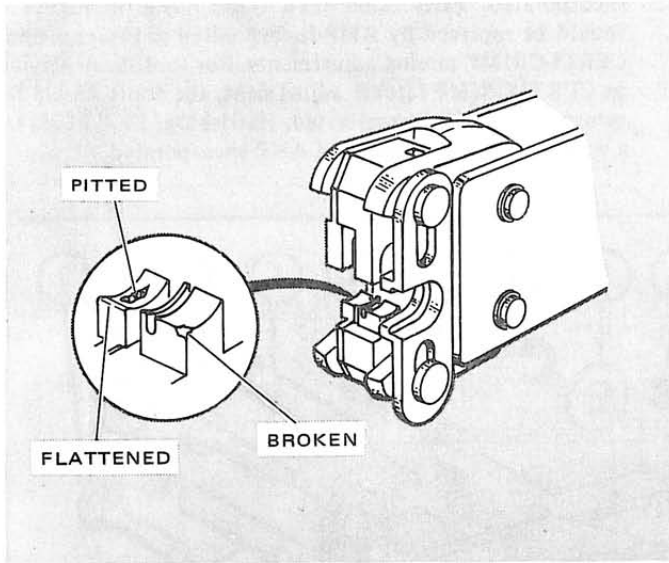

Figure 5
- (b) Visually inspect the die closure surfaces for flattened, broken or pitted conditions. Although dies may gage within permissible limits, worn or damaged die closure surfaces are objectionable and can affect the quality of the crimp. Examples of possible damaged die closure surfaces are shown in Figure 5.